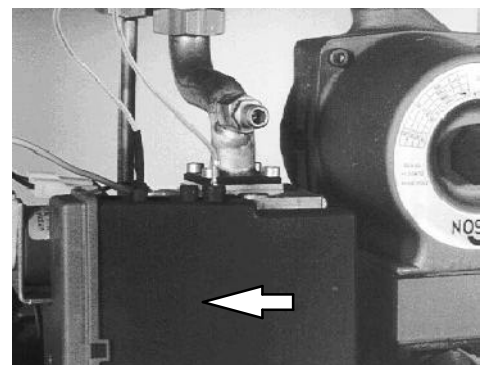

fig. 56
- 4 remove the ignition device by moving it from towards left (fig. 56);